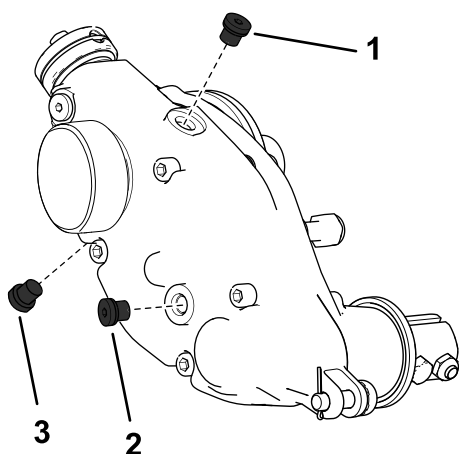

Figure 27
2. Remove the drain plug on the bottom of the housing (Figure 27).
3. Remove the fill plug on the side of the housing and loosen the air-vent plug on the top so air can pass through (Figure 27).